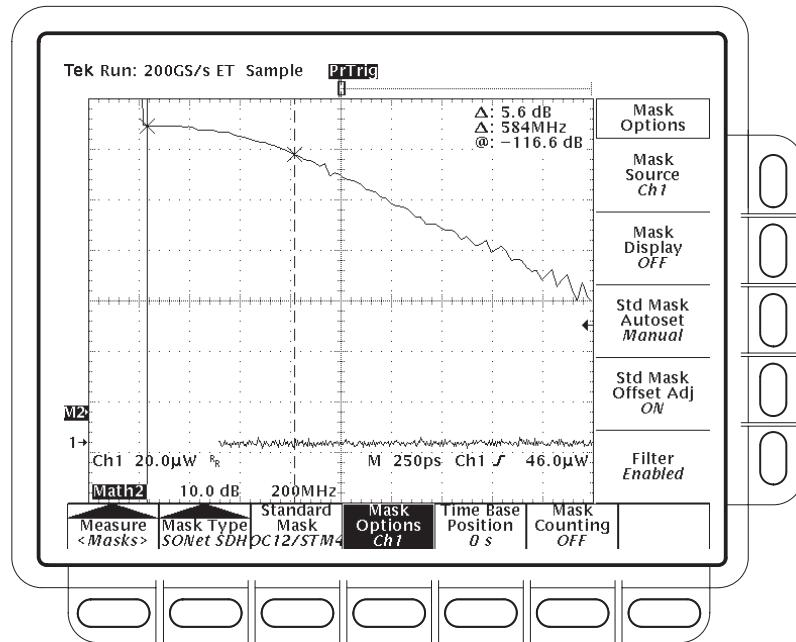

Figure 4-45: Optical impulse response for OC-12 SONET Reference Receiver
- f. Next, move the cursor currently positioned at the beginning of the record until the cursor is just right of the DC spike in the response (see Figure 4-45 on page 4-105). The unsigned $\Delta \text{ dB}$ readout should be at or between the upper and lower limits shown in Table 4-11 on page 4-106 (note that the entries in the table are signed numbers, but the $\Delta \text{ dB}$ readout is not) for the mask that is turned on.
NOTE. In Figure 4-45 the left cursor has been moved to the zero dB level. The right cursor remains at the OC-12 data rate of $622 \text{ MHz} \pm 4 \text{ MHz}$ (the delta frequency is 584 MHz because the right cursor is no longer referenced to DC). The delta attenuation from the zero dB level to the 622 MHz Cursor is 5.6 dB .